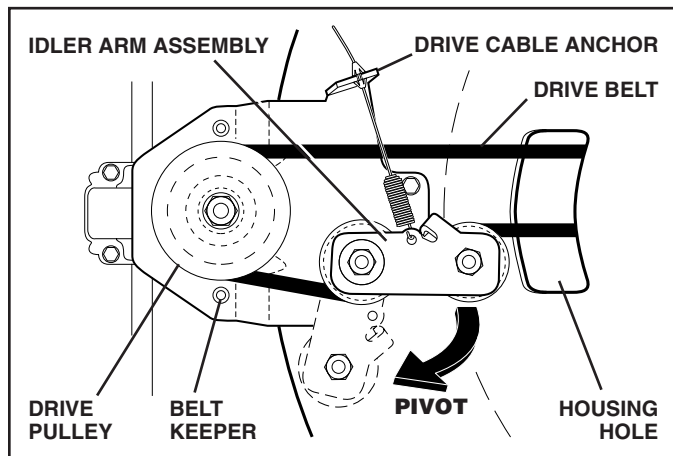

FIG. 21
3. Remove drive cable from anchor, then detach spring from idler arm assembly (See Fig. 21).
9. Install new drive belt into idler arm assembly, then around the drive pulley. Be sure belt is inside of belt keepers (See Fig. 21).